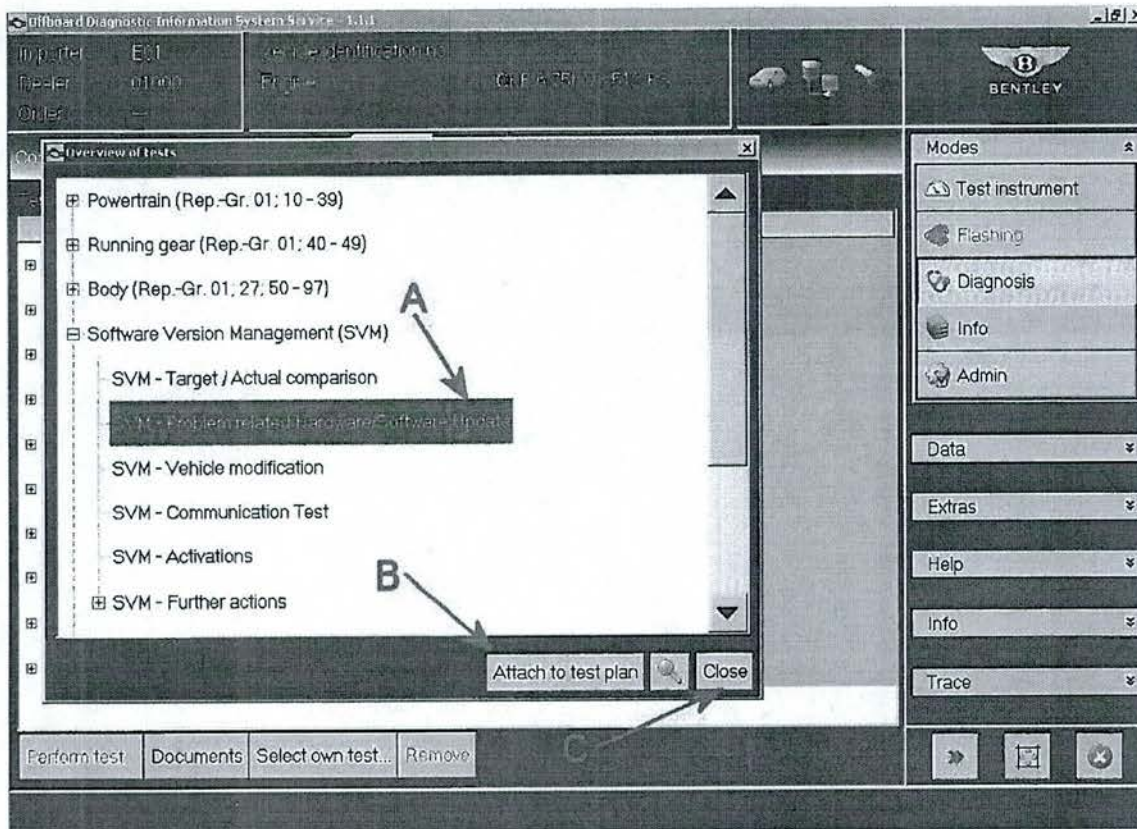

Figure 7
8. Referring to Figure 7 - Select SVM - Problem related Hardware/Software Update (point A), and select Attach to test plan (point B) then select Close (point C)